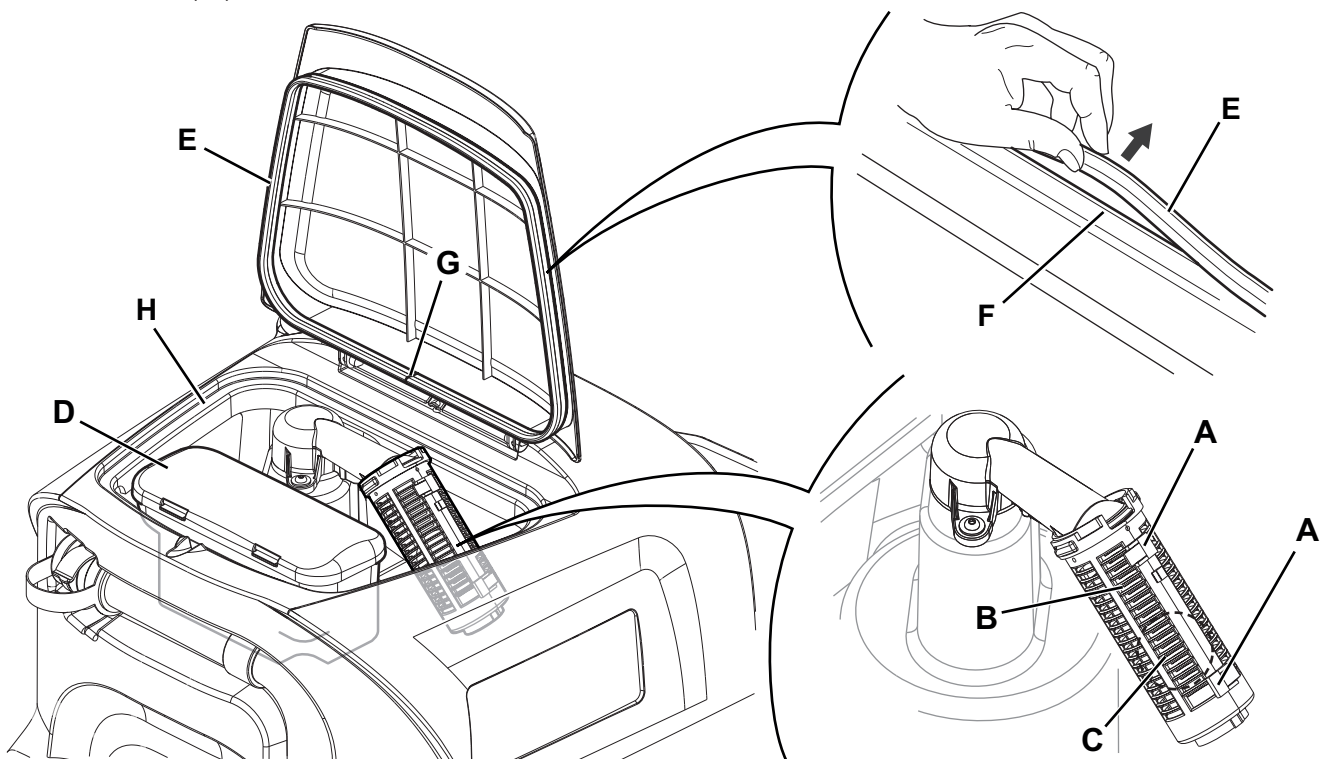

Figure 11
2. Ensure that the machine is off and the operator key (41) has been removed.
3. Raise the cover (18).
4. Wash the inside of the tank (17) and the cover with clean water.
5. Drain the water in the tank through the hose (26).
6. Clean the vacuum grid (28), release the fasteners (A, Fig. 11), open the grid (B) and recover the float (C) then clean it carefully and reinstall it.
7. Remove the debris collection tank (D) and open its cover, then clean it carefully and reinstall it on the vacuum hose.
8. Check the condition of the tank cover gasket (E).